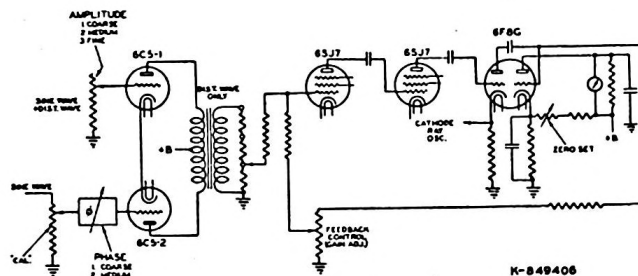

Figure 4—Distortion Measurement Circuit
6. A detector and output meter, for measuring the r-m-s value of signal. A small amount of bucking current is fed through this meter to buck out the no-signal plate current of the detector. The amount of bucking current is controlled by the "ZERO" control. Figure 4 illustrates the distortion measurement circuit.